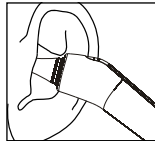

Figure 8
- While gently pulling the ear, insert the measuring sensor into the ear canal by applying gentle pressure (Figure 8). Now press the START button.